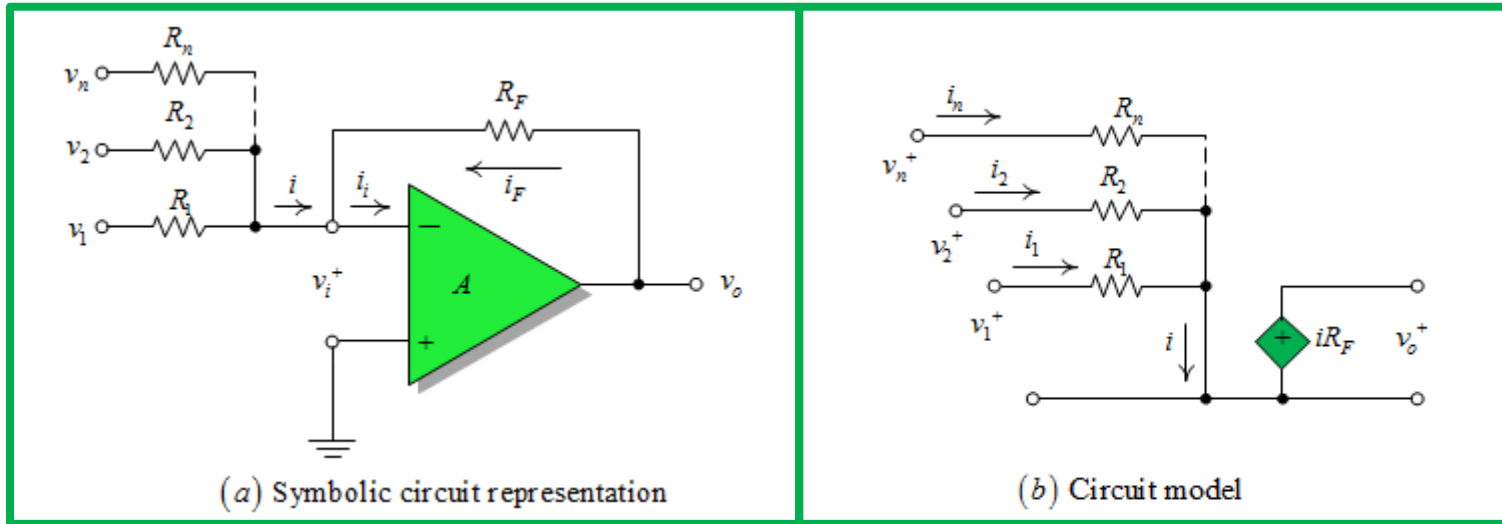

Fig. 6: A summing circuit.
- In Fig. 6, the input current is supplied by several voltages through separate resistances. In the practical case, $v_i = 0$ and $i_i = 0$ and the circuit model is as shown in Fig. 6b. The sum of the input currents is just equal and opposite to the feedback current, i.e.,